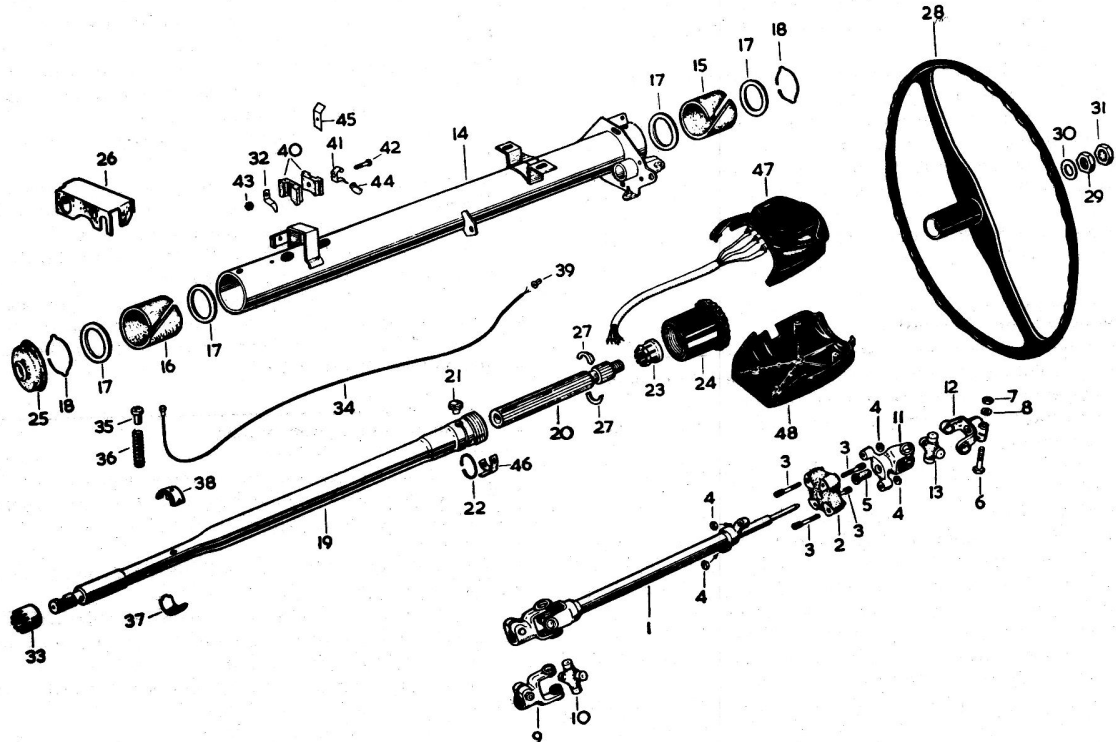

FIG.11.25. TYPICAL STEERING COLUMN ASSEMBLY
- 2 Refer to Fig.11.25 which gives an exploded view of a typical steering column assembly.
- 7 Remove the split collet (item 23 in Fig.11.25).
- 9 Carefully prise up the horn pick-up ring serrations and slide the ring off the rubber rotor (items 37 and 38 in Fig.11.25).
- 1 Figures in brackets refer to the items depicted in Fig.11.25.
- 2 Replace the two retaining washers (17) the felt washers (15 and 16) and the spring clips (18) in the top and bottom of the outer column.
- 3 Refit the two rubber contact holders (40) in the bracket at the lower end of the column.
- 4 Pass the bolt (42) through the contact (41), which should face towards the top of the column, through the fibre insulating strip (45) and secure with the nut.
- 5 Replace the earth contact (32) and secure it with its nut and bolt.
- 3 There is a later type lower steering column to that illustrated in Fig.11.25 but it is used on standard steering only. It has a different flange yoke assembly, end yoke and journal assembly. The journal assembly takes two replaceable nylon rollers and to remove these, take off their securing circlips and slide off the rollers. There is no difference on the removal and refitting of this later type column.